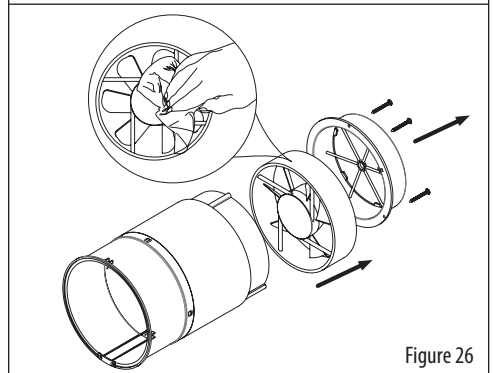

Figure 26
**Fan Maintenance** (Figure 26)